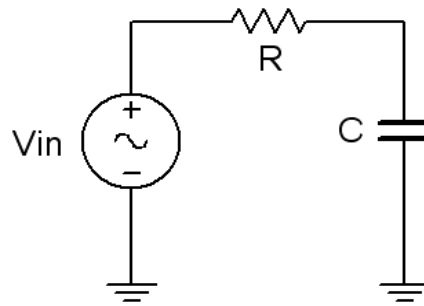

Figure 4.1
1. Using figure 4.1 with $V_{in}=10$ V p-p and $R=10$ k Ω , and assuming that the reactance of the capacitor is much smaller than 10k and can be ignored, determine the circulating current using measured component values and record in Table 4.1.
2. Build the circuit of figure 4.1 using $R=10$ k Ω , and $C=1$ μ F. Place one probe across the generator and another across the capacitor. Set the generator to a 200 Hz sine wave and 10 V p-p. Make sure that the *Bandwidth Limit* of the oscilloscope is engaged for both channels. This will reduce the signal noise and make for more accurate readings.